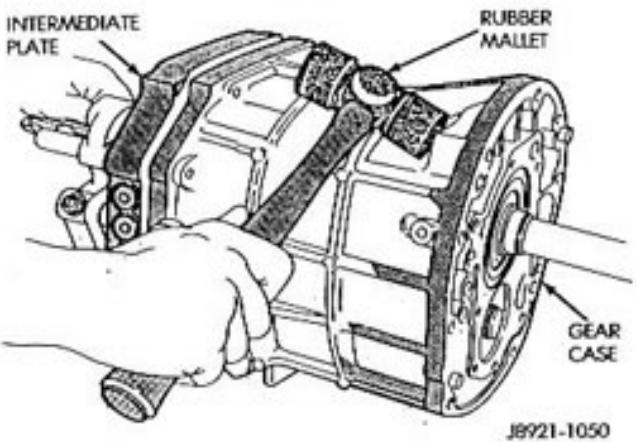

Fig. 20 Loosening Gear Case
(5) Loosen the gear case by tapping it away from the intermediate plate with a rubber mallet (Fig. 20).